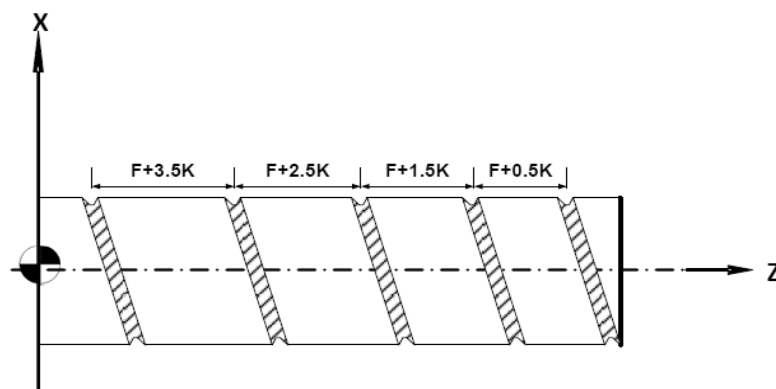

Fig.3-20
2. For multi-stage thread cutting, based on technical requirements, in general the subsequent stages starting from the second stage do not need to detect the GRID signal mainly for connecting smoothly with the previous stage. (See Fig.3-20)